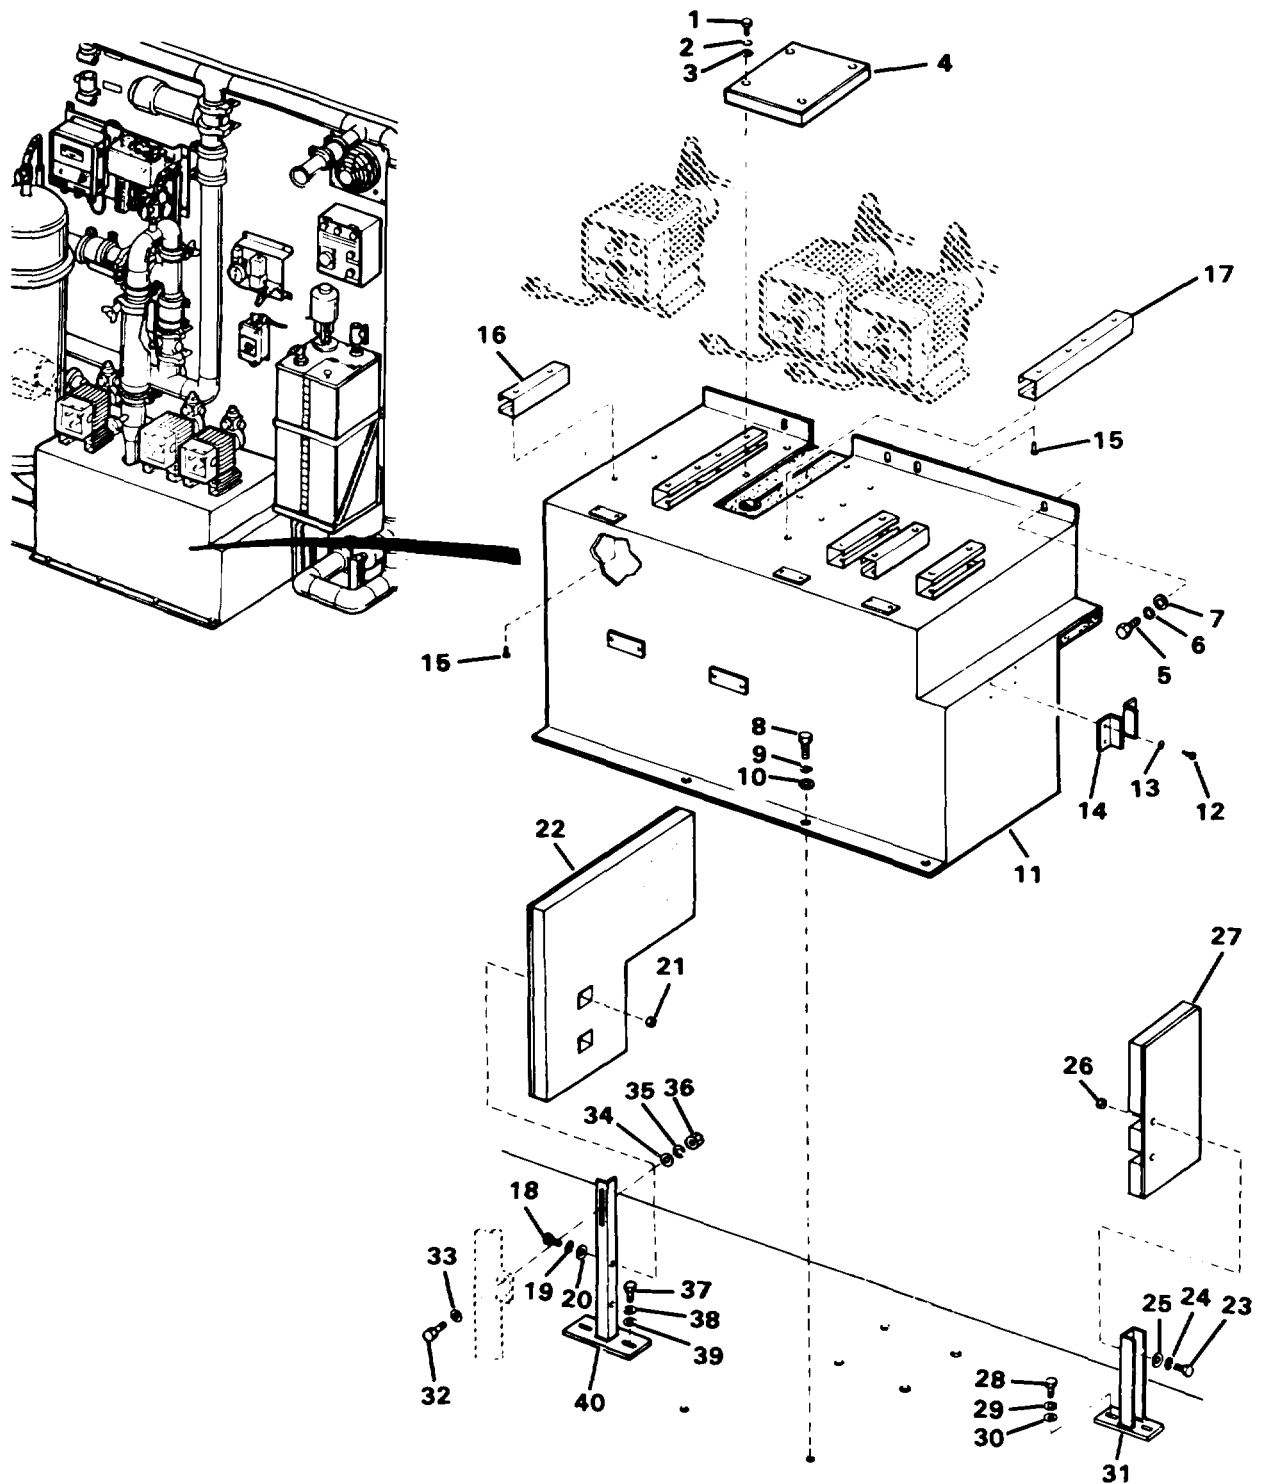

Figure 4-46. Booster Pump (Sound Enclosure) Cover Assembly
- a. Remove four capscrews (1, Figure 4-46), lockwashers (2) and washers (3) and remove cover (4).
- b. Remove four capscrews (5), lockwashers (6) and washers (7).
- c. Remove three capscrews (8), lockwashers (9), and washers (10).
- d. Remove four screws (12), washers(13) and two brackets(14) and remove sound enclosure (11).
- e. Remove two capscrews (18), lockwashers (19), washers (20), nuts (21) and panel (22).
- f. Remove two capscrews (23), lockwashers (24), washers (25), nuts (26) and panel (27).
- g. Remove two capscrews (28), lockwashers (29), washers (30) and bracket (31).
- h. Remove two capscrews (37), lockwashers (38), washers (39) and bracket (40).
- i. Remove two capscrews (32), washers (33), nuts (34), washers (35) and lockwashers (19).